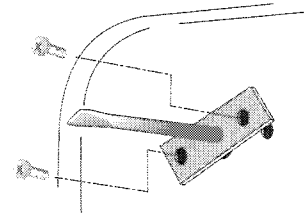

Fig. 6
2. Remove the two (2) screws securing the temperature probe to the rear wall of the oven cavity. (Fig. 6)